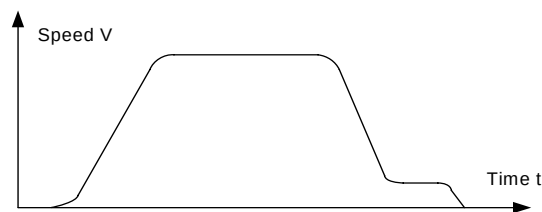

Figure 6.6 Multi speed operation curve
**Note 3:** Multi speed curve is shown as Figure 6.6: